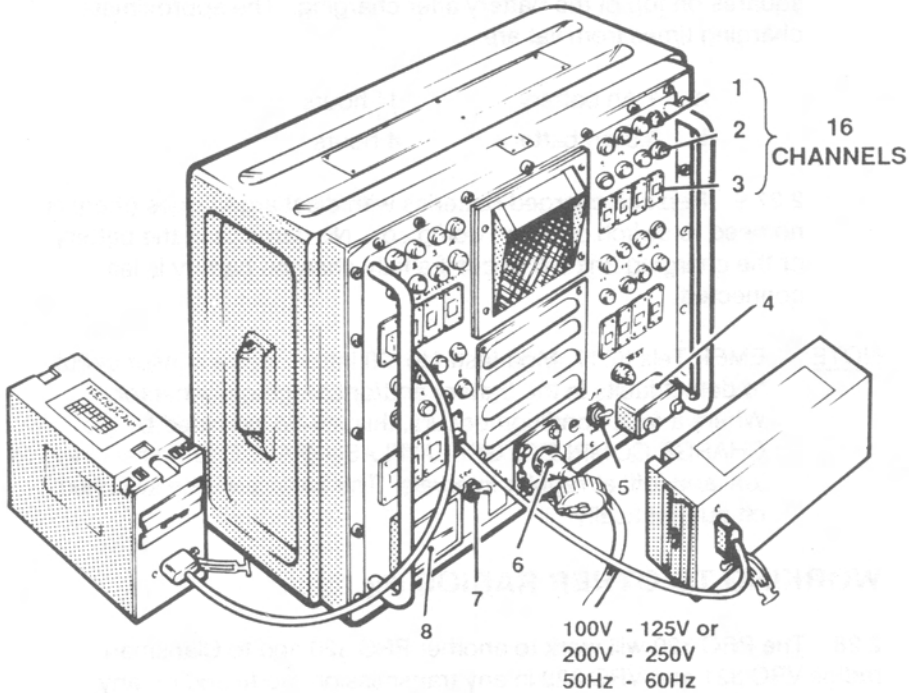

Fig.19 AC Charging Unit
AC CHARGING UNIT (Fig.19)
2.27.1 Remove the cover from the charging unit and stand it in the upright position as shown in Fig.19 (**unit must not be operated in any other position**).